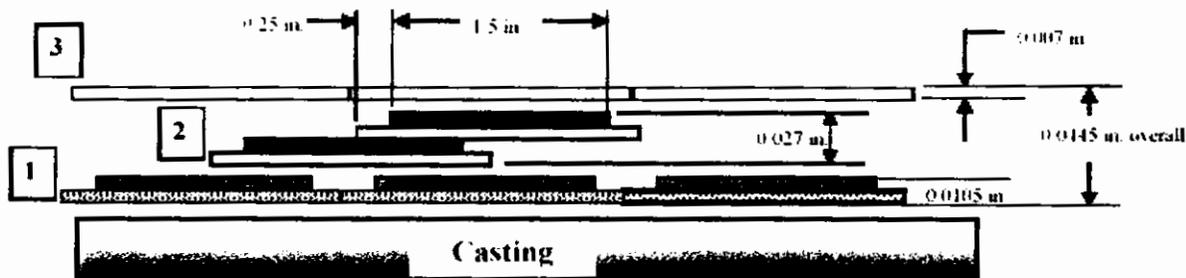

Figure 2- Groundwrap scheme
6.6.1 Apply pre-cut layers of ground wrap insulation Figure 2- Groundwrap scheme